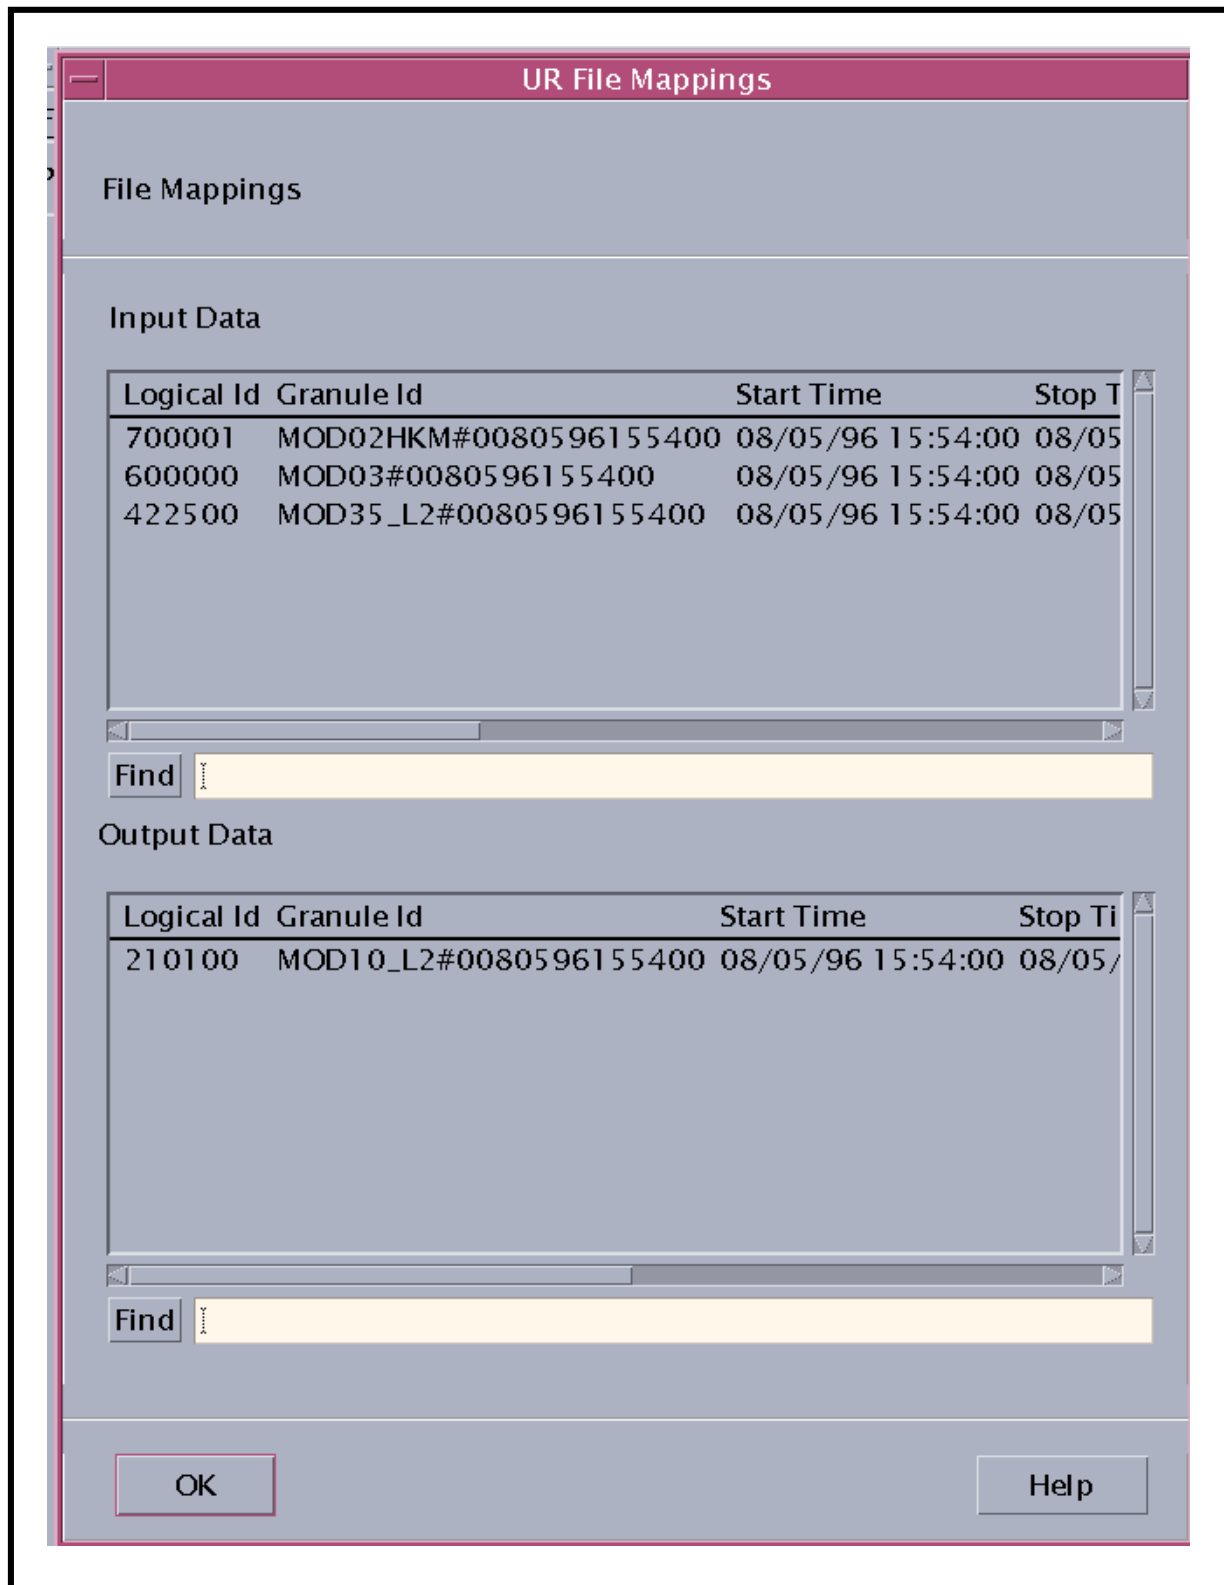

Figure 24. UR File Mappings GUI
- displays the input and output files for a particular DPR on the **UR File Mappings** GUI (Figure 24)
- Logical ID - The identification (ID) or tag used within the PGE to access the file.
- The **UR File Mappings** GUI (Figure 24) is displayed.